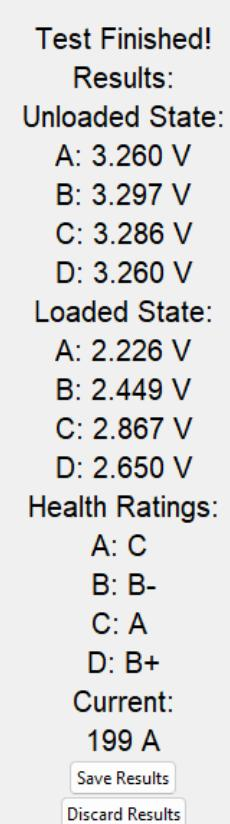

Figure 3.19 - Test Results Screen (TS)
- 3: The screen in figure 3.19 will display the results from the microcontroller. The battery voltages for each battery will be displayed first in the unloaded states then in the loaded states followed by the health ratings and loaded test current. To save the results, press the “Save Results” button. To discard the results, press the “Discard Results” button (TS).